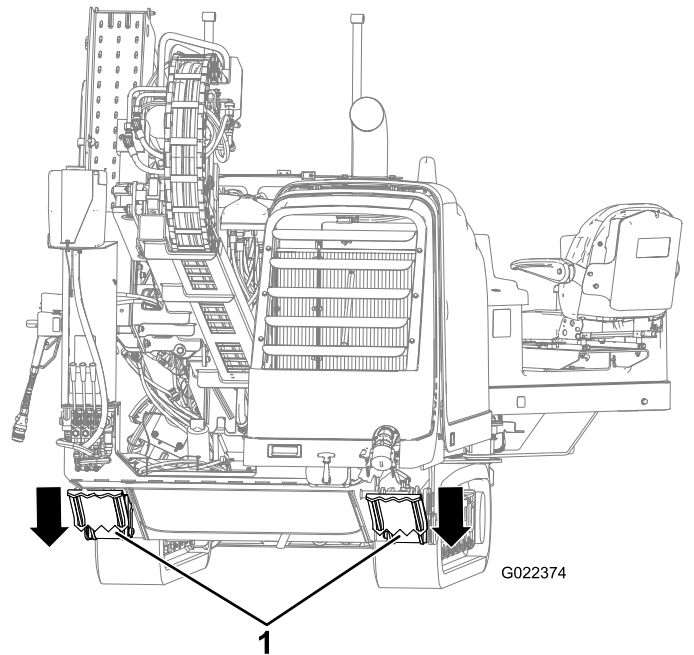

Figure 24
7. Lower the rear stabilizers until they contact the ground firmly, or until the desired entry angle is achieved (Figure 24).